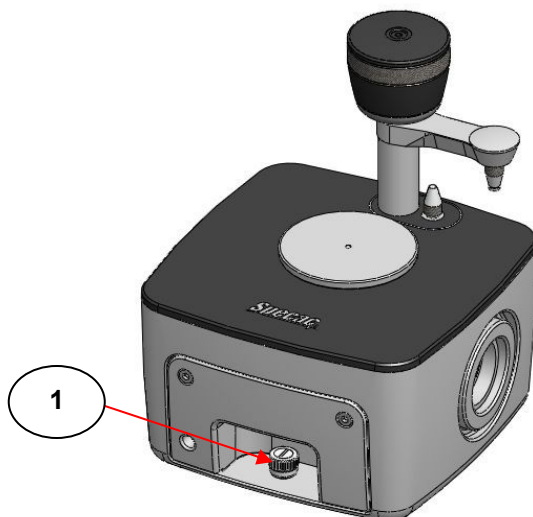
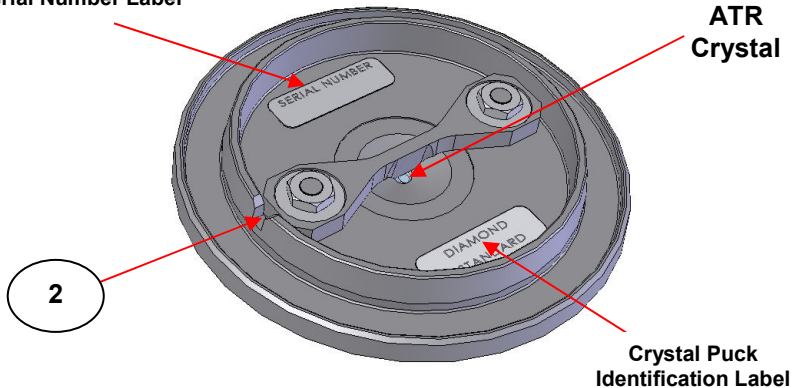

Fig 1. Quest ATR Accessory – Optical Unit with Clamp Arm/Anvil Assembly and ATR Crystal Puck Assembly
Fig 3. Underside view of Quest ATR Diamond Crystal Puck Assembly
The ATR crystal puck assemblies will fit onto the top surface area of the Quest ATR Accessory in one orientation only. Align the location slot (notch) (2) on the underside of the crystal puck (see Fig 3.) with the location pin (3). The location slot (2) of the ATR crystal puck must be facing towards the front of the Quest ATR Accessory where the thumbscrew fixing (1) is located. (See Fig 1.) Allow the three magnetic circular spot catches (4) to engage to the underside circumference surface of the ATR crystal puck to hold it securely in position. To remove and swap over with any other ATR crystal puck assembly, just grip the sides of the ATR crystal puck and pull it up to release the hold of the magnetic catches.